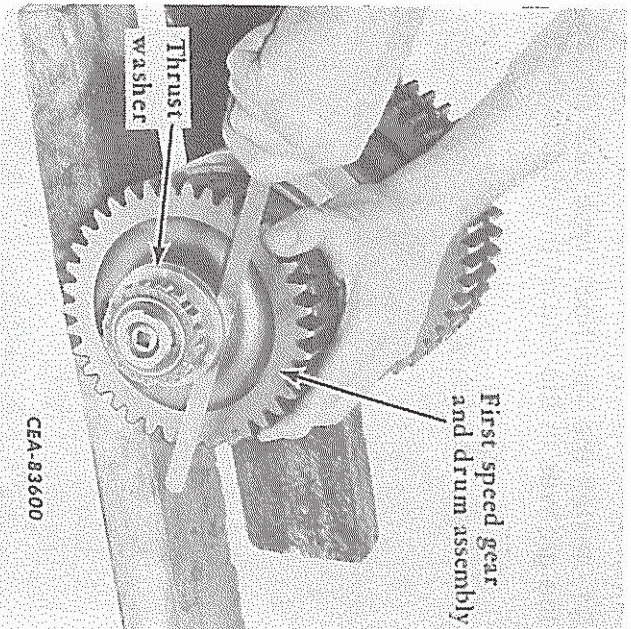

FIG. 71 — Checking Gear and Drum Assembly Play
30. Check the gear and drum assembly end play. Move the gear and drum assembly away from the thrust washer as far as possible. Measure the clearance between the gear and thrust washer using a feeler gauge (Fig. 71). The clearance obtained must be within the limits shown in Par. 2, "SPECIFICATIONS." Check the gear and drum assembly end play on the opposite side of the clutch shaft in the same manner. If the clearance obtained on either of the assemblies is above or below the specified clearance, the clutch shaft must be dis-